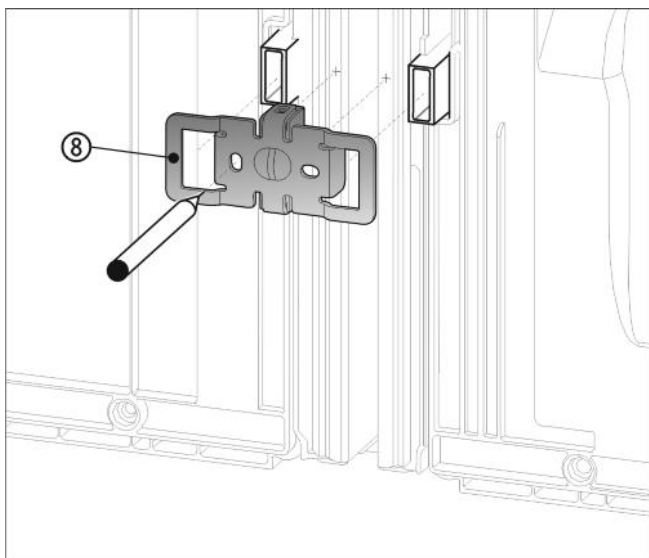

Fig. 10
- Slide the bracket Fig. 10 (8) on with the slots over the retainer for the wall spacers.